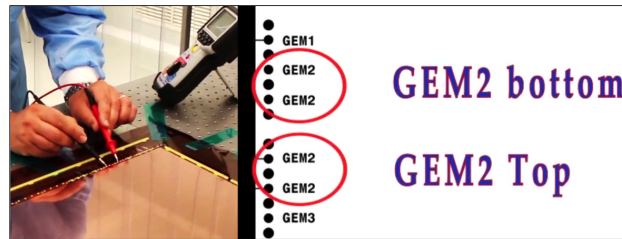

Figure 71: Testing GEM2.
Step 22: Before mounting the last piece on the large base of the trapezoid, check the impedance of the second foil by applying 550V (Fig. 71). After the test is performed, discharge the foil, place the last piece of internal frame and insert the remaining nuts.